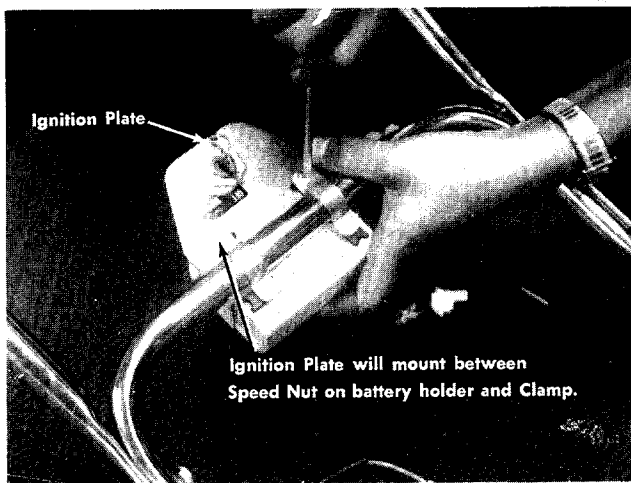

FIGURE 12. ASSEMBLY OF IGNITION PLATE
8. Place the ignition plate in position. See figure 12.
9. Assemble the ignition plate between the battery holders and clamps with two self tapping screws. See figure 12.